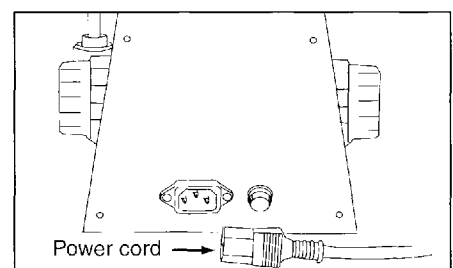
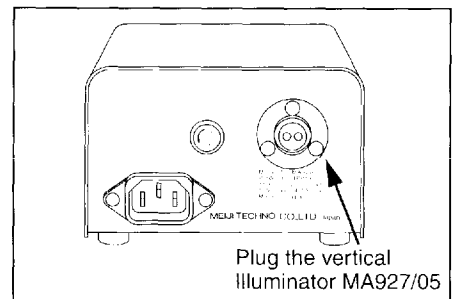

Figure 5
Figure 9
- Plug the power cord into the microscope and the other end into a grounded outlet.(Fig.5)
- Plug the cord from the vertical illuminator into the back of the standalone power supply (MA927/05)(Fig.9) and plug the power cordset into the microscope and the other end into a grounded outlet.(Fig.5)